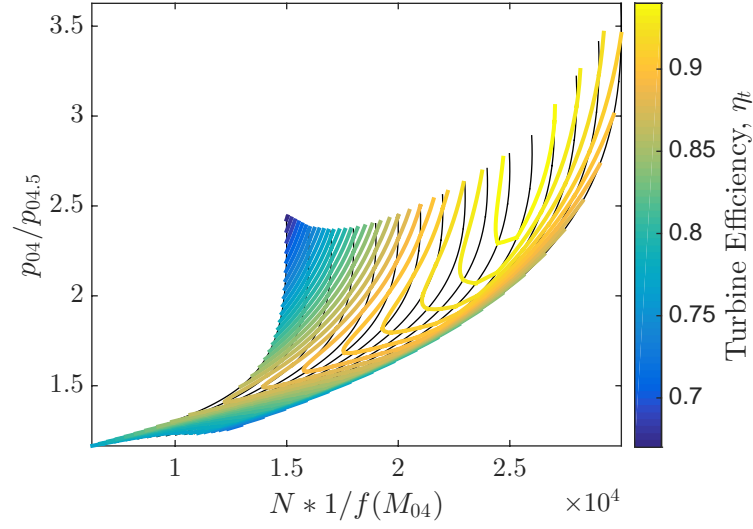

Figure 4: Consolidated turbine map.
- (3) Compute $f(M_{04})$;
- (4) Compute $1/f(M_{04})$.
- b) The initial turbine map is shown in Figure 4.
c) The consolidated turbine map is shown in Figure 4.